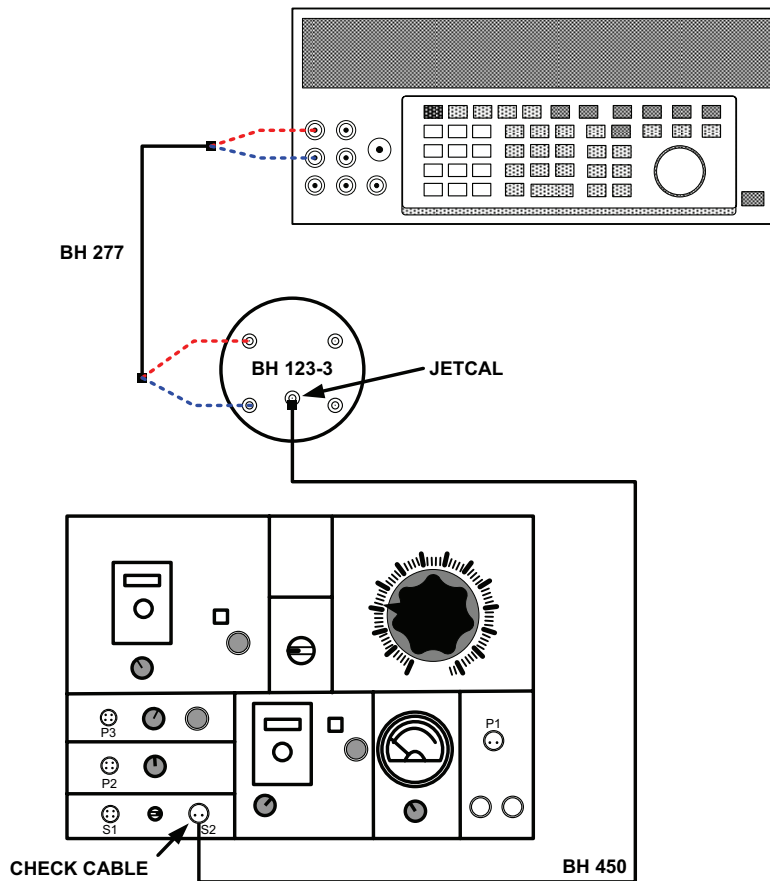
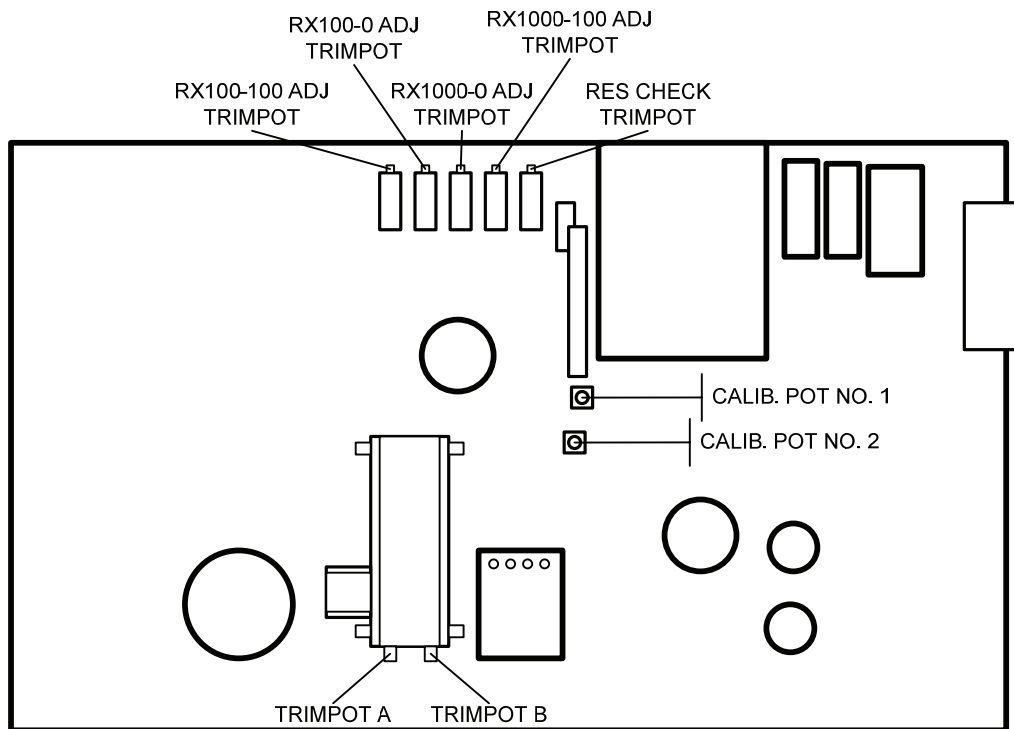
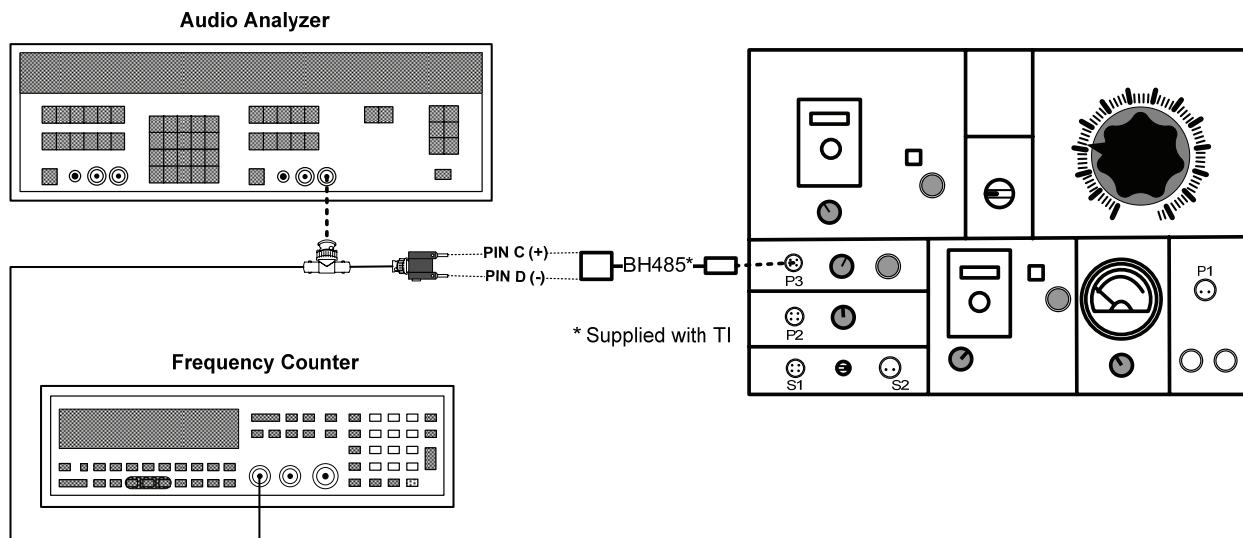

Figure 1. Potentiometer - equipment setup.
Figure 2. Adjustment locations -bottom view.
Figure 3. Rpm Check - equipment setup.
(1) Connect equipment as shown in figure 1.
- (1) Set **SW-6** switch to **MECH. ZERO**.
- (2) Connect equipment as shown in figure 1.
- (3) Adjust °C control for a **0** degree indication.
- (4) Repeat **a** (6) above.
- (5) Set **SW-6** switch to **RANGE**.
- (6) Adjust TRIMPOT B (fig. 2) until **GALVO-1** indicates **0**.
- (7) Repeat **b** (1) above.
- (8) Set calibrator to standby and reverse connections at calibrator input.
- (9) Adjust °C control to **1000** dial indication.
- (10) Adjust output of calibrator to 41.269 mV, less millivolt value used in **a** (6) above.
- (11) Repeat **b** (5) above.
- (12) Adjust TRIMPOT A (fig. 2) until **GALVO-1** indicates **0**.
- (13) Repeat (1) through (12) above until no further adjustments are required.
(9) Repeat technique of (4) through (7) above for each setting of **RESISTANCE CHECK SW-3** switch and set resistance standard to the value indicated on **SW-3**. **TI GALVO-1** will indicate within ± 5 divisions at all **SW-3** settings.
b. Adjustments. Adjust **RES CHECK TRIMPOT** (fig. 2) for **0** indication on **GALVO-1 (R)**.
- (1) Adjust resistance standard for 0 ohms.
- (2) Connect **TI INPUT RES. INSUL. P-2** to **HIGH** and **LOW** terminals of resistance standard using cables and insulation check adapter (BH485 and BH821, p/o TI).
- (3) Set **SELECTOR SWITCH SW-1** to **INSUL.** and **SW-8** switch to **RX100**. If **INSULATION CHECK** meter does not indicate **0**, perform **b** (1) below.
- (4) Adjust resistance standard for indication of 10,000 ohms on **INSULATION CHECK** meter. If resistance standard does not indicate between 9000 and 11,000 ohms, perform **b** (2) below.
- (5) Adjust resistance standard for 0 ohms.
- (6) Set **SW-8** switch to **RX1000**. If **INSULATION CHECK** meter does not indicate zero, perform **b** (3) below.
- (7) Adjust resistance standard for an indication of 100,000 ohms on **INSULATION CHECK** meter. If resistance standard does not indicate between 90,000 and 110,000 ohms, perform **b** (4) below.
b. Adjustments (Fig. 2)
(1) Adjust RX100 0 ADJ TRIMPOT for zero indication on **INSULATION CHECK** meter (R).
(2) Adjust decade resistor for 10,000 ohms and adjust RX100-100 ADJ TRIMPOT for **INSULATION CHECK** meter indication of 10,000 ohms (R).
(3) Adjust RX1000-0 ADJ TRIMPOT for zero indication on **INSULATION CHECK** meter (R).
(4) Adjust RX1000-100 ADJ TRIMPOT for **INSULATION CHECK** meter indication of 100,000 ohms (R).
(1) Set **SW-7** switch to **MECH. ZERO**.
(2) Adjust **GALVO-2 MECH. ZERO 4** control for **0** indication.